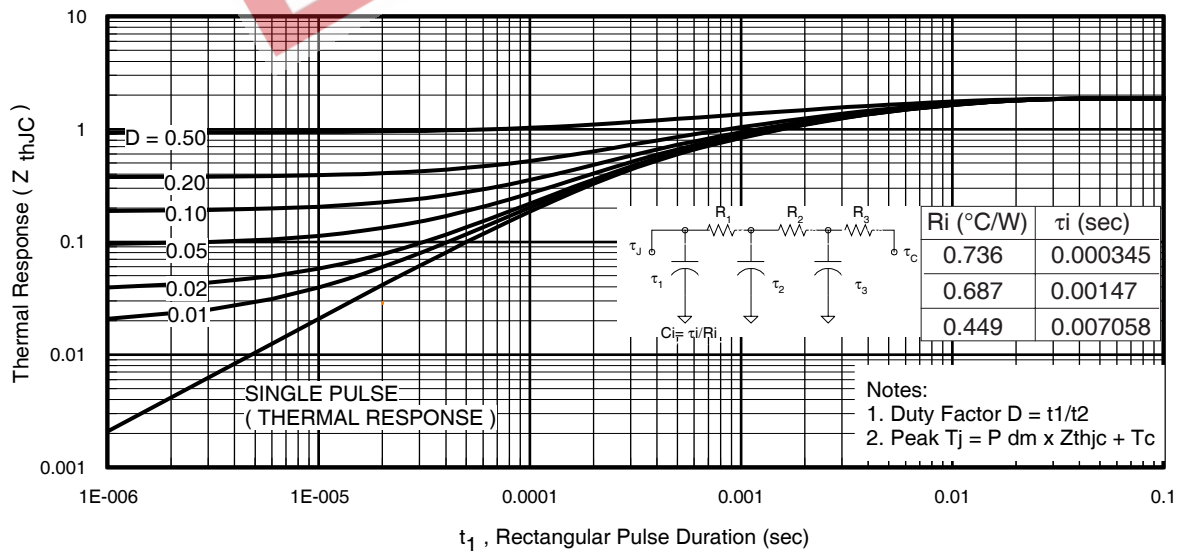
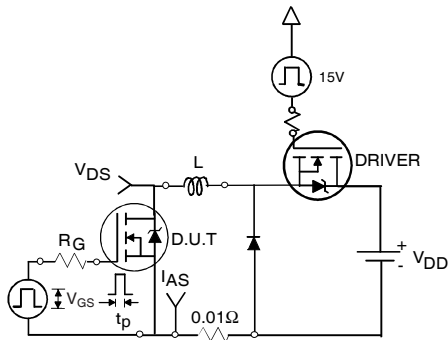

Fig 11. Maximum Effective Transient Thermal Impedance, Junction-to-Case
Fig 12a. Unclamped Inductive Test Circuit
3. Equation below based on circuit and waveforms shown in Figures 12a, 12b.
$Z_{thJC}(D, t_{av})$ = Transient thermal resistance, see figure 11)
- ① Repetitive rating; pulse width limited by max. junction temperature. (See fig. 11).
- ② Limited by T_{Jmax} , starting $T_J = 25^\circ\text{C}$, $L = 0.166\text{mH}$, $R_G = 25\Omega$, $I_{AS} = 31\text{A}$, $V_{GS} = 10\text{V}$. Part not recommended for use above this value.
- ③ Pulse width $\leq 1.0\text{ms}$; duty cycle $\leq 2\%$.
- ④ C_{OSS} eff. is a fixed capacitance that gives the same charging time as C_{OSS} while V_{DS} is rising from 0 to 80% V_{DSS} .
- ⑤ Limited by T_{Jmax} , see Fig.12a, 12b, 15, 16 for typical repetitive avalanche performance.
- ⑥ This value determined from sample failure population. 100% tested to this value in production.
- ⑦ This is only applied to TO-220AB package.
- ⑧ This is applied to D²Pak, when mounted on 1" square PCB (FR-4 or G-10 Material). For recommended footprint and soldering techniques refer to application note #AN-994.
- ⑨ R_θ is measured at T_J approximately 90°C .